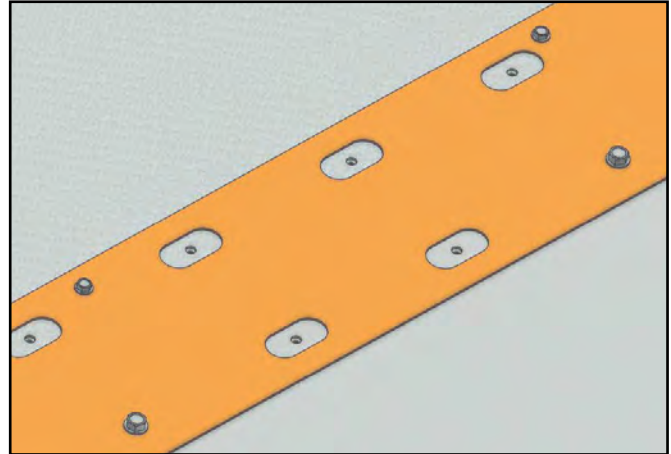

Figure 34 – Top Perimeter Guardrail Gap Plate Attachment
3. For multi-cell units, install the gap plates. Secure plates on one side by re-using the 5/16" self-tapping screws from the fan deck. Secure on the other side using the 1/4" self-drilling screws provided. See Figure 34.